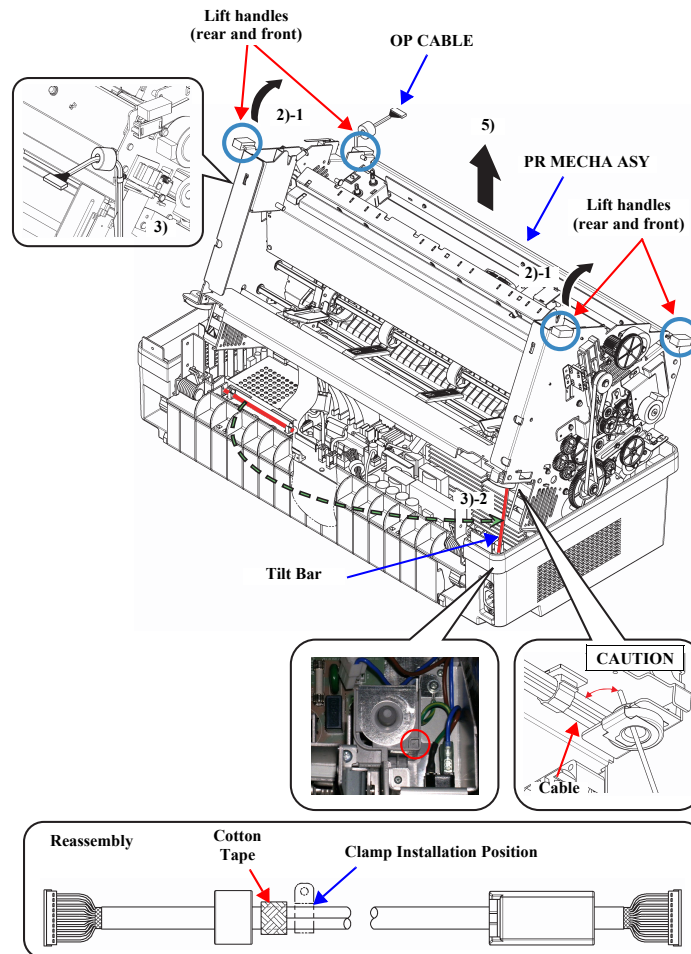

Figure 4-23. PR MECHA ASY Removal (1)
2. Lift one side of the PR MECHA ASY in the direction of the arrows shown in Figure 4-23 holding the two rear lift handles, and keep the PR MECHA ASY tilted up using the tilt bar.
When attaching the OP CABLE, install the clamp to the cable at the position shown in Figure 4-23 before fastening the clamp and OP CABLE to the SIDE FRAME, RIGHT.